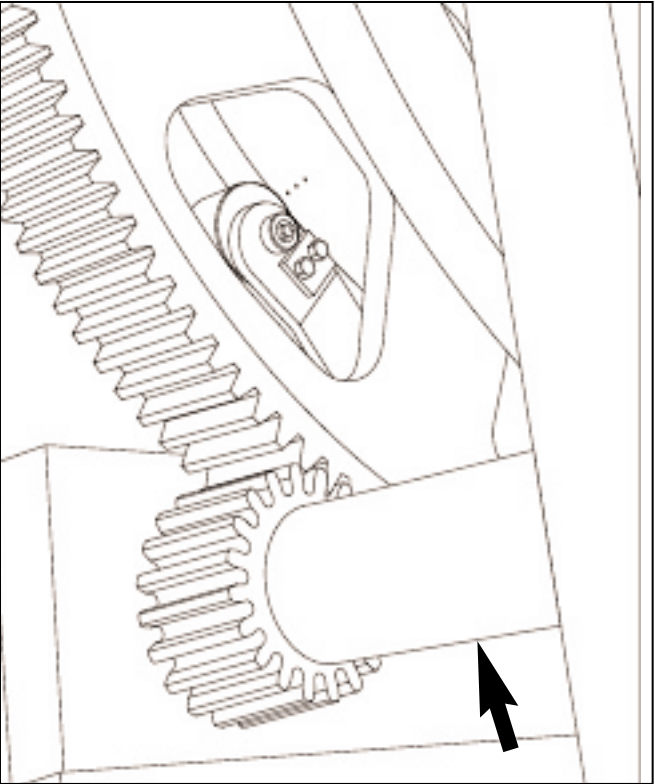

Figure 11.6 PINION SHAFT
11.2.5 PINION SHAFT (FIGURE 11.6 AND 11.7)